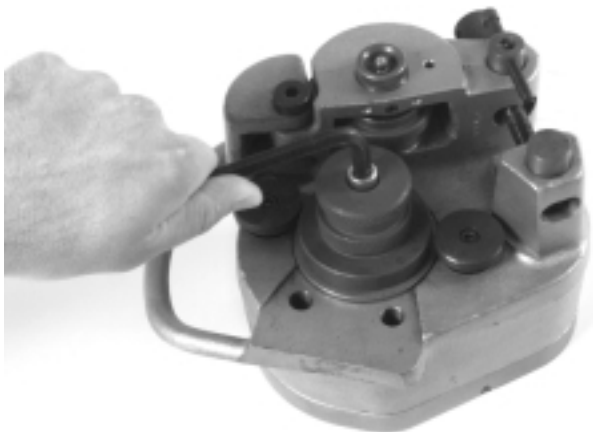

Figure 8 – Removing Hex Screw from Drive Roll
3. Remove the hex screw retaining the drive roll with a 5/16" hex key (*Figure 8*). If using the 8" – 12" or 4" – 6" rollset, remove the drive roll support bolts with a 3/8" hex key.